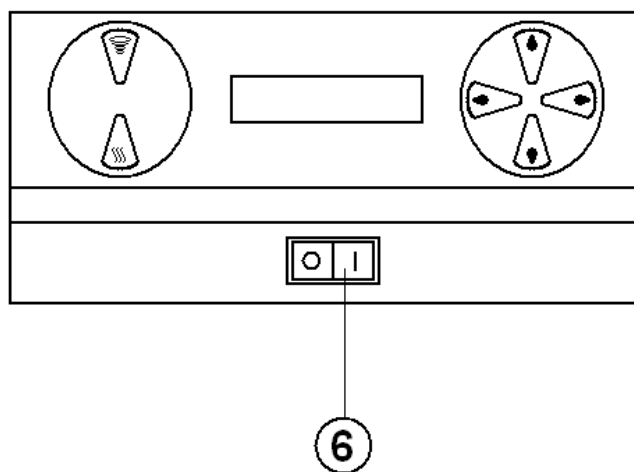
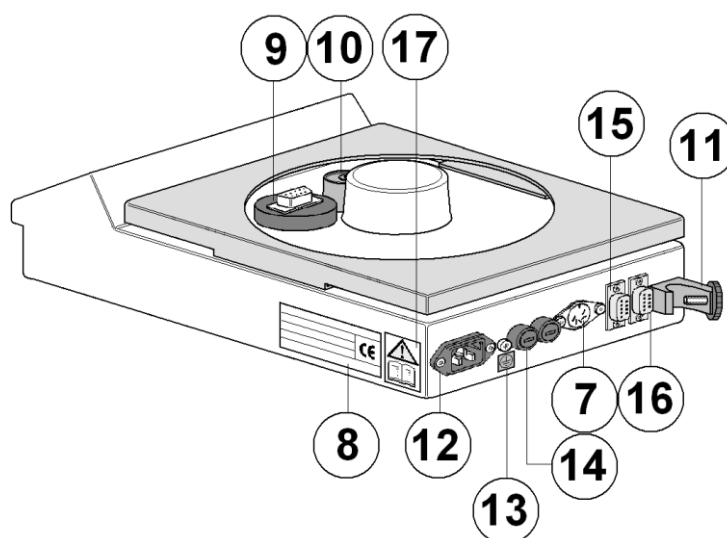

Figure 6: Keypad and LCD Screen
Figure 7: Omni Reaction Station Control Unit - Rear View
7.4.1. Connect the mains cord and moulded IEC plug and lead set cable supplied with the Omni Reaction Station into the mains power inlet socket (See Figure 7: Omni Reaction Station Control Unit - Rear View). Press the On / Off switch (See Figure 6: Keypad and LCD Screen) to the on position.